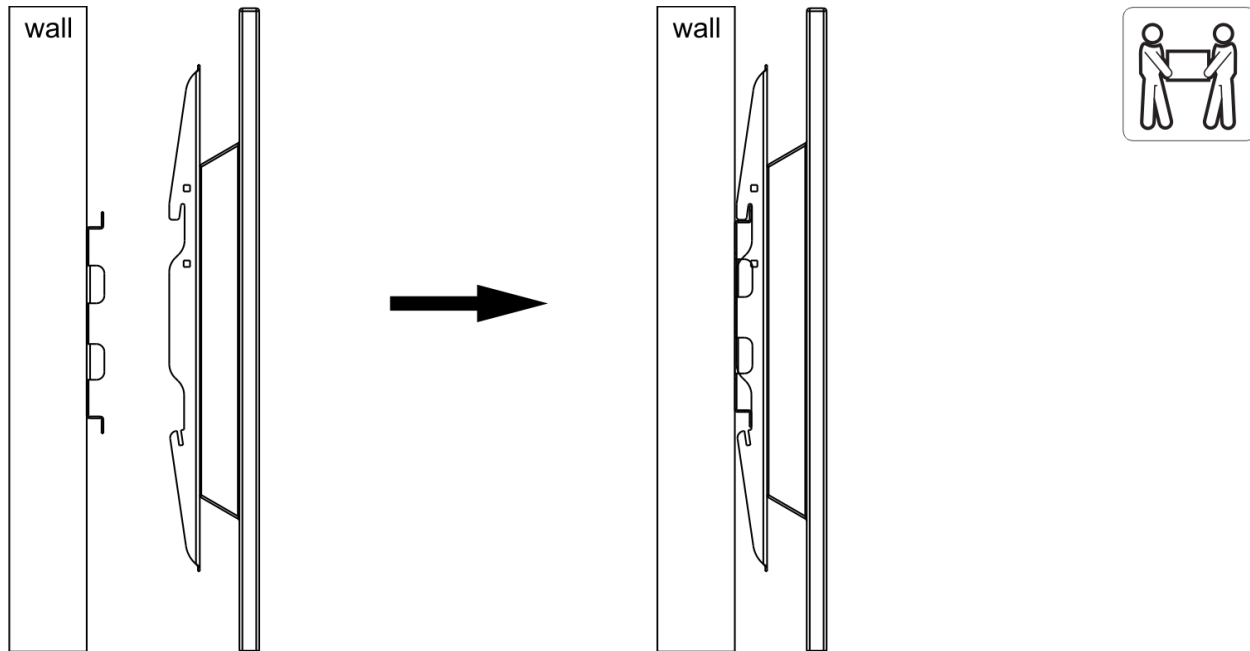

Fig. 07
- After the wall mounting bracket has been safely secured to the wall, carefully lift your TV (with 2 people) and hook the top hooks over the top of the wall plate rail, as shown in Fig. 07.